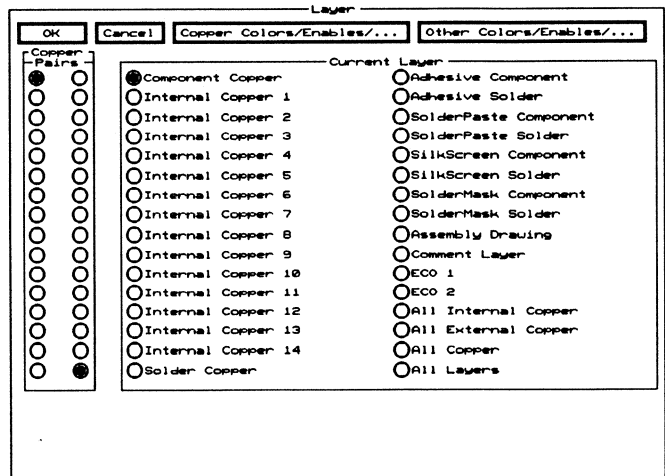

Figure 4-6. The **Layer** dialog box.
1. Select **Layer** in **Global Options**. The **Layer** dialog box displays (figure 4-6).